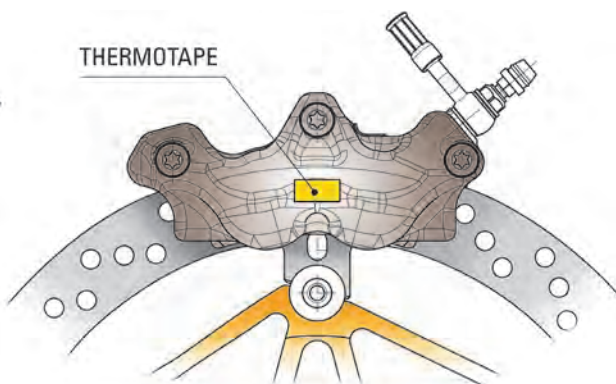

Fig. 3
- Apply thermal tape on the internal half-caliper in order to monitor operating temperatures: these can be supplied by BREMBO under part number R 02.5168.11/12 (for the application area see fig. 3).